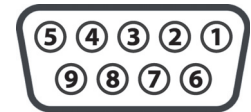

Figure 2-4: Port A/Port B pinout
- The serial ports operate at the RS-232 interface level to communicate with external data loggers, navigation systems, and other devices. Either serial port can also be used for firmware updates. Figure 2-4 illustrates the numbering for the female DB9 port (the numbering for each male connector is a mirror reflection of Figure 2-4) and Table 2-1 provides the pin configuration for the serial ports.